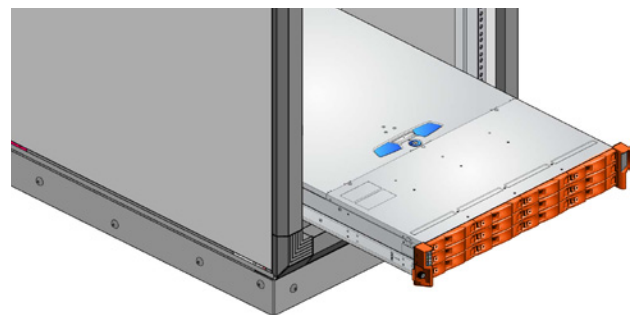

Fig. 19 - Mounting the System into a Rack
7. Slide the chassis fully home on the rails (Fig. 19).